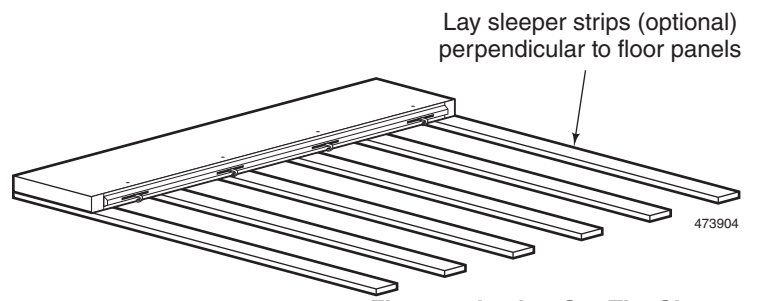

Figure 7. Laying Out The Sleepers
**IMPORTANT:** A level surface is critical. If the floor is not level, vertical panels cannot be aligned properly. If the floor system includes optional sleeper strips, lay provided strips perpendicular to the prefabricated floor panels (across floor panel joints), spaced as indicated on the Shop Prints. See Figure 7.